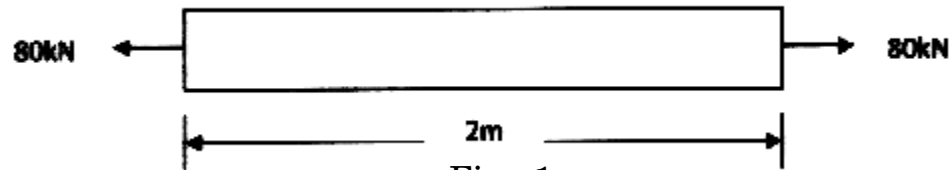

Fig. 1
- (b) A steel tie bar of ϕ 40 mm and 2 m long is subjected to a pull of 80 kN as shown in Fig. 1. To what length the bar should be bored centrally so that the total extension of the bar will increase by 20% under the same pull, the bore being 20 mm diameter. (Take $E = 2 \times 10^5 \text{ N/mm}^2$) [10]